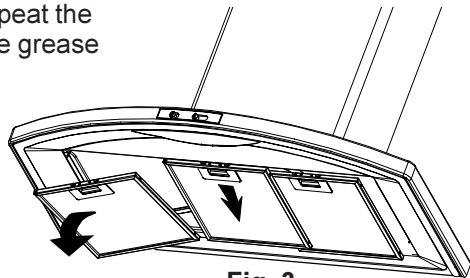

Fig. 3
- First, push the metal grease filter stop backwards, then extract the filter, pulling downwards. **Fig. 3**.